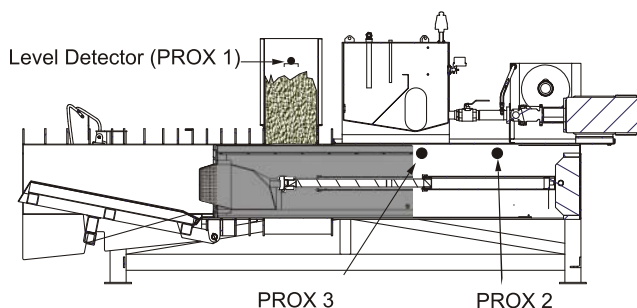

Figure 24 - Product Piling On Top Of Plunger. Plunger In Home Position (fully extended).
1. **START-UP** SYSTEM CNTRL switch in START extends the plunger. AUTO PLUG switch in AUTO raises the restriction rail. Product falling through the in-feed chute falls onto the plunger top surface (see Figure 24).
**NOTE:** Any time the system is stopped with the EMERG STOP or the SYSTEM CNTRL Switch, when re-started the plunger will return to home position (see Figure 24 page 11).